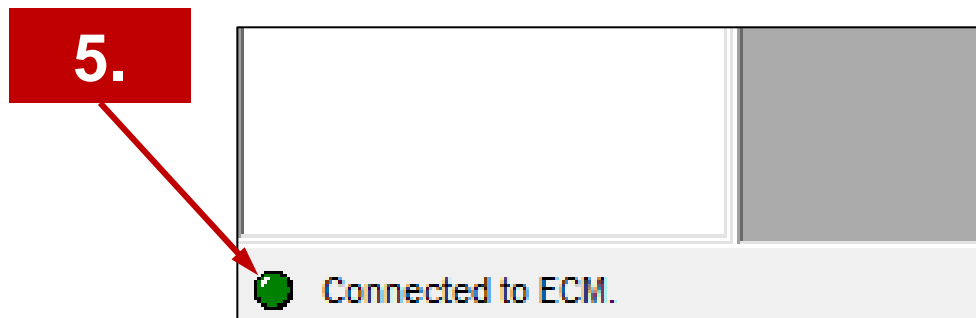

Figure 8.
Step 5: Once connected, verify ECM connection at the bottom left of the window. *Figure 8*